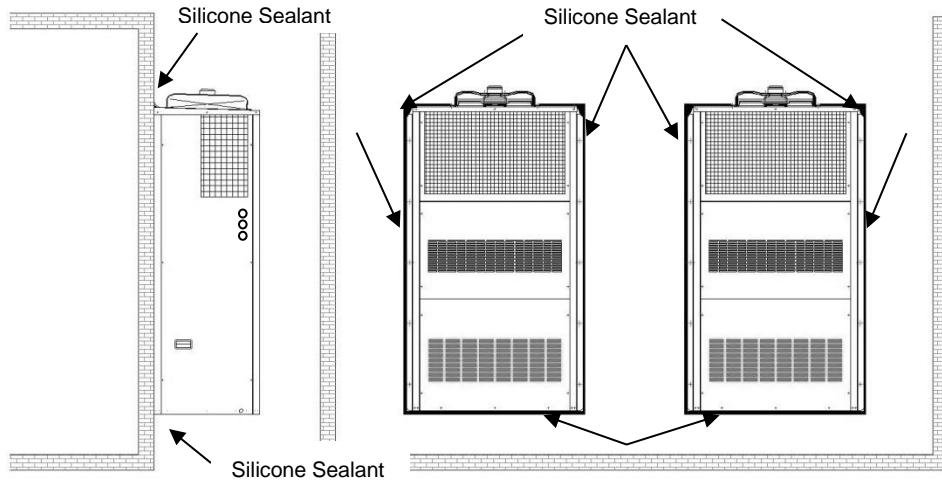

Figure 10: Seal the Joints between WPUs and Wall
In order to prevent moisture from getting in and air leaking out, coat the joint between the rear panel of the unit and the wall with a layer of silicone sealant (installer provided, see Table 5, item 9) as shown in Figure 10.